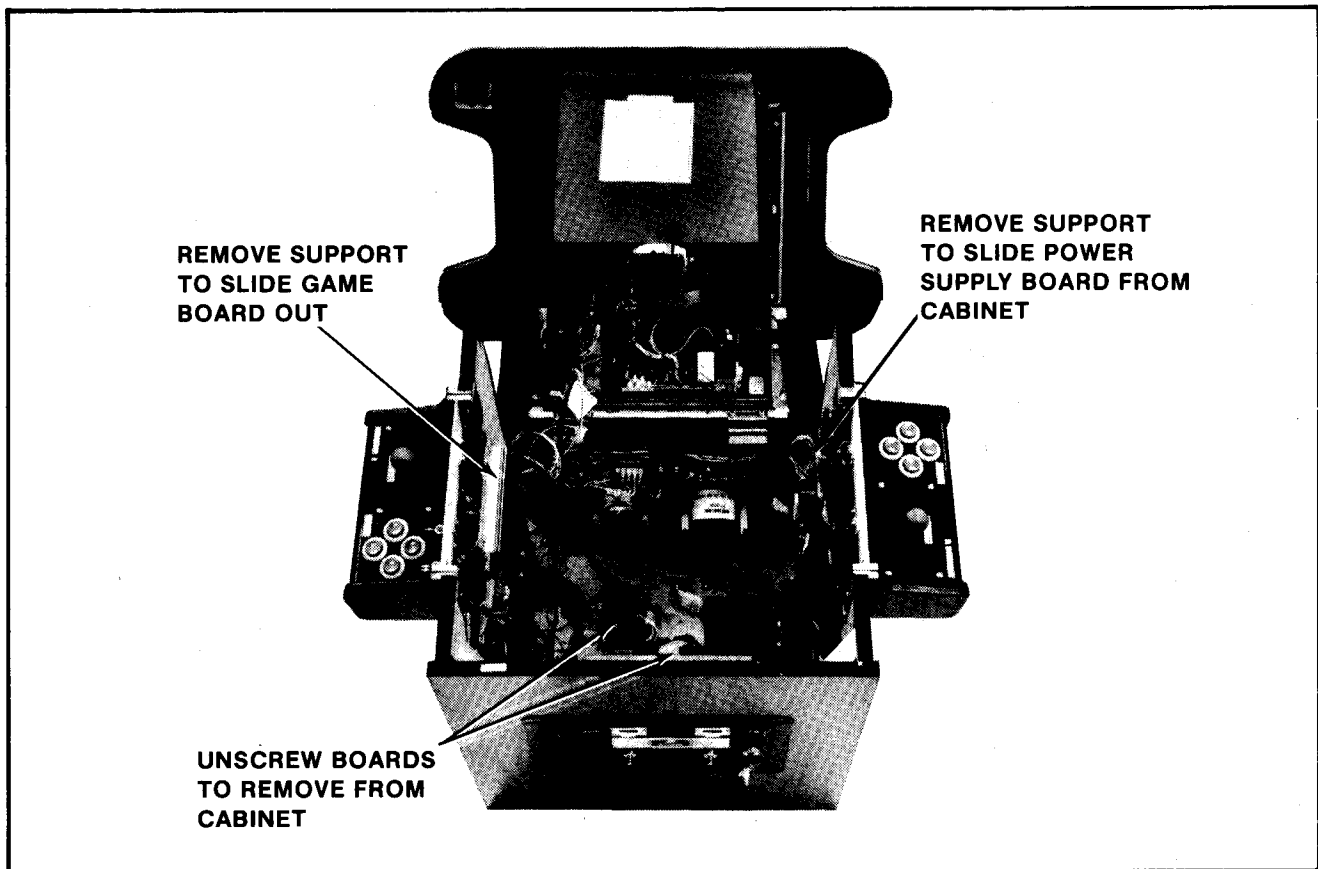

Figure 4-14 Removing P.C.B.s — Cocktail
**3. COCKTAIL TABLE MODEL:** See Figure 4-14.
- To remove the power supply board. See Figure 4-14.
- To remove the game and Sound boards. See Figure 4-14.